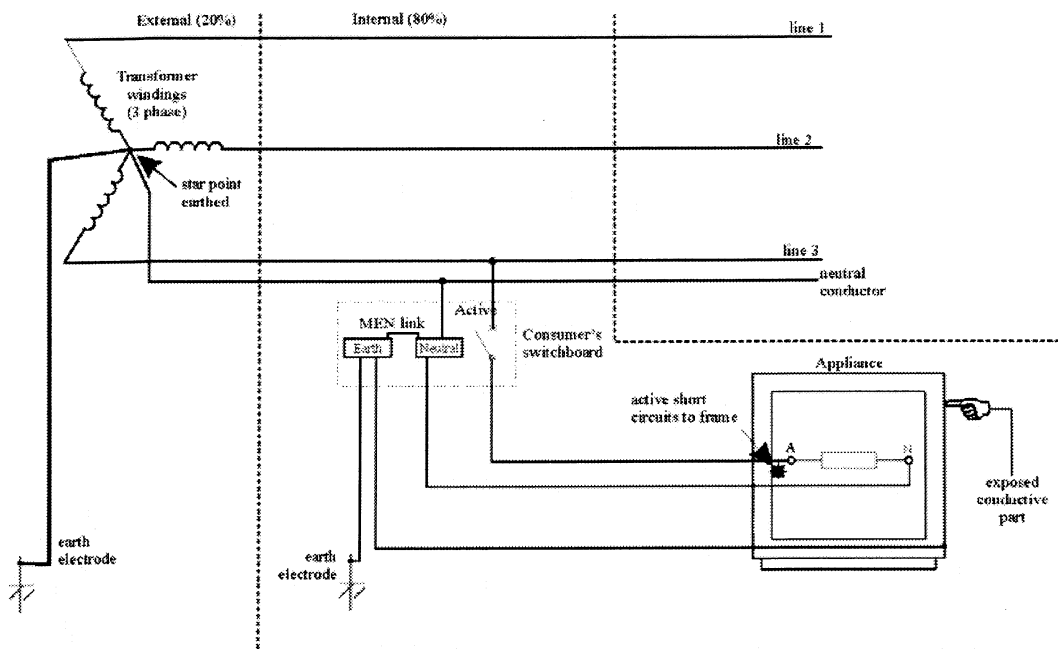

Figure 11.1
6. Use arrows to indicate the fault-loop path on the diagram of Figure 11.1 if a fault were to occur between the active terminal of the appliance and the frame of the appliance.